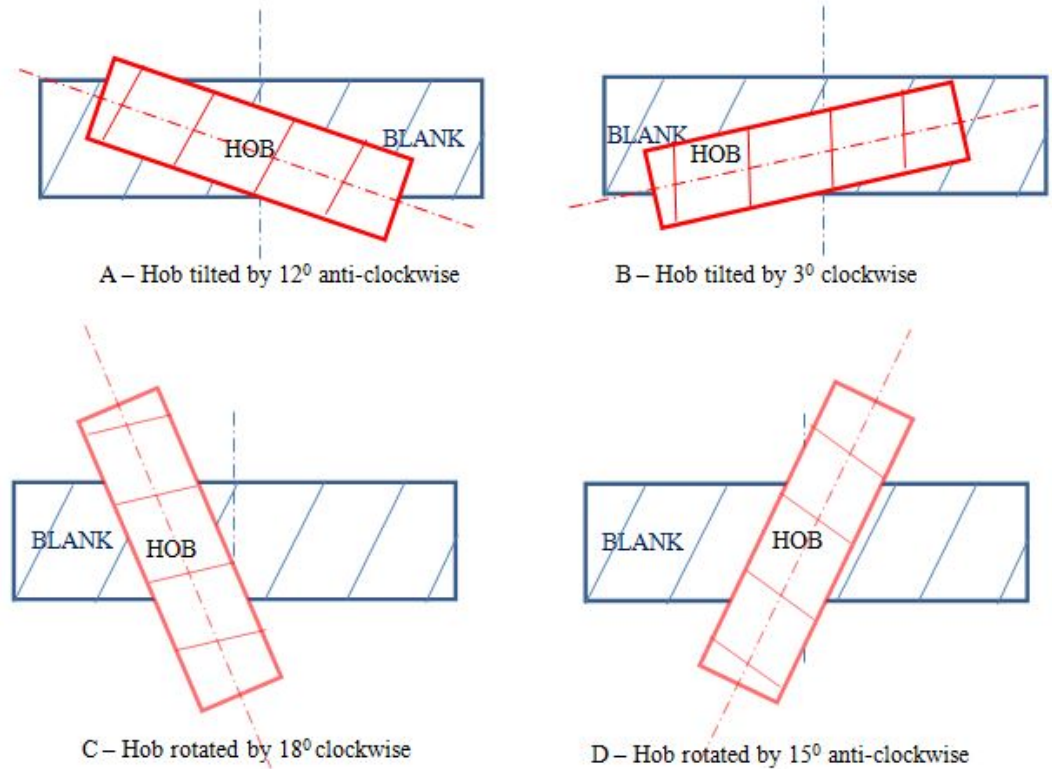

Fig. 1
2) **There is a right hand helical gear to be cut with helix angle of 15° . The left handed hob is having an angle of 3° (Fig. 1). In order to cut the gear on the gear hobbing** *1 point*